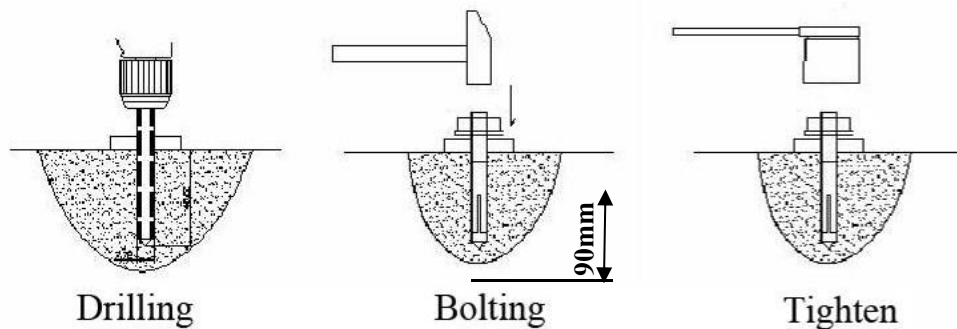

Fig. 16
2. Using the prescribed rotary hammer drill, and drill all the anchor holes and install the anchor bolts. Then tighten the anchor bolts (See Fig. 16).